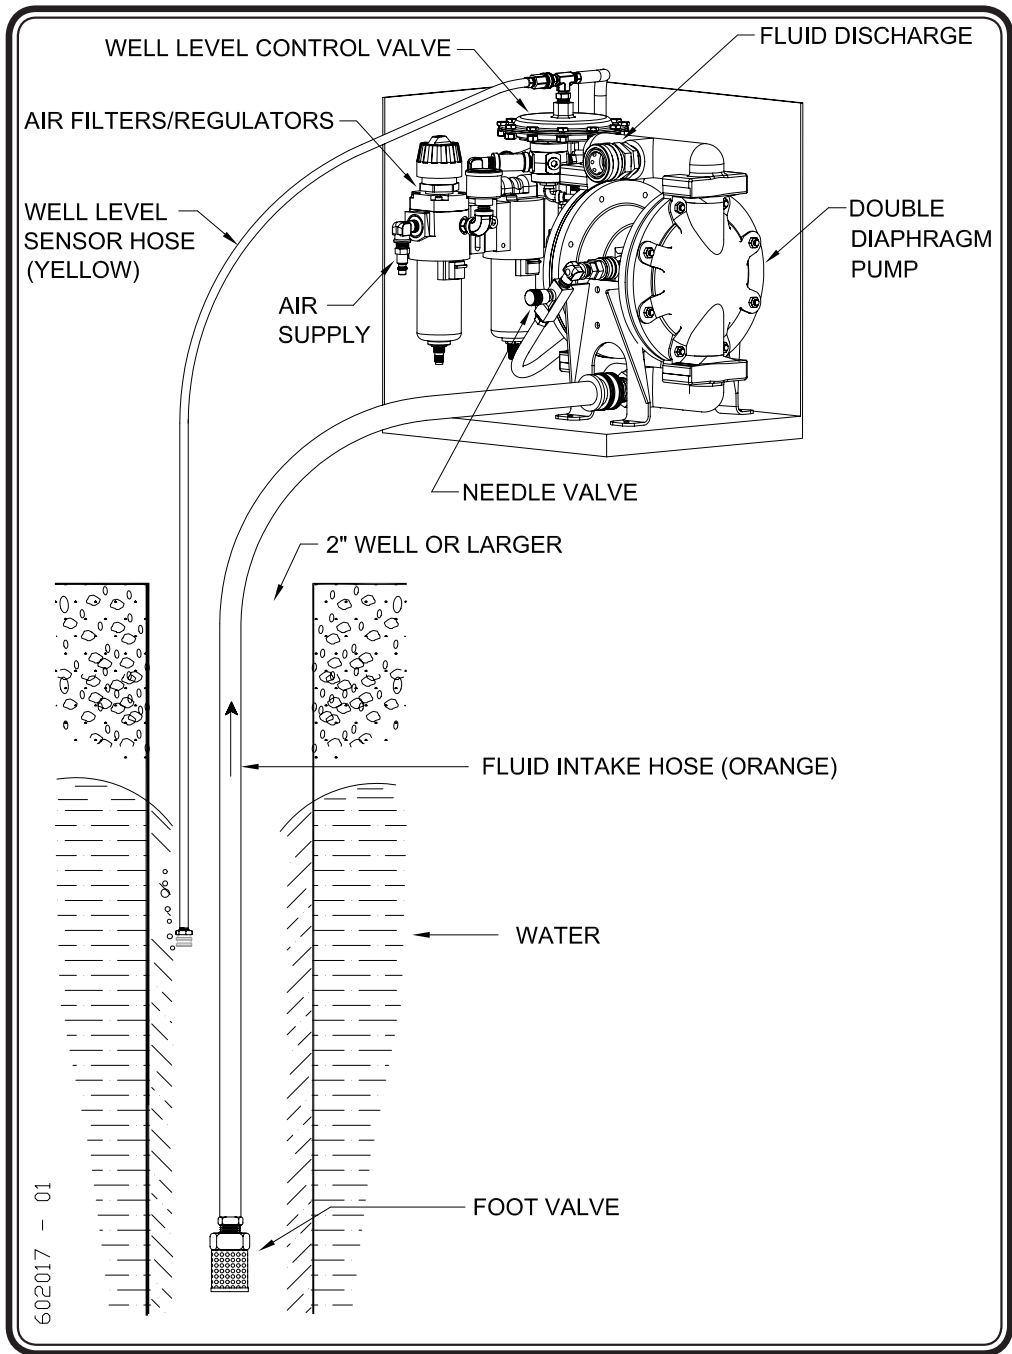

Figure 2 - ADDP System with Foot Valve
- The pneumatic sensor circuit has an **air bubbler** connected to the 1/4 inch **well level sensor hose** via a quick connect. (See Figure 2)
- The **foot valve** placed on the end of the **fluid intake hose** keeps the **DDP** from losing prime by preventing fluid from leaving the hose. (See Figure 2)
- Connect the **FEMALE air hose socket with 3/8 inch MPT** to the air compressor making sure to use the teflon tape on the threads. (See Figure 2)
- Connect the **MALE quick connect on the system air supply hose** to the **FEMALE socket on the air compressor**. (See Figure 2)
- Attach the **FEMALE quick connect on the system air supply hose** to the **MALE air supply quick connect near the air filter on the pneumatic system**. (See Figure 2)
- Connect the MALE quick connect on the **well level sensor hose** to the FEMALE quick connect on the top of the pneumatic system. (See Figure 2)
- The FEMALE end of this hose is positioned in the well or tank from which the fluid is being drawn. This hose end is usually secured about six (6) inches below the desired fluid level. (See Figure 2)
- Connect FEMALE quick connect of the **fluid intake hose** to the MALE DDP quick connect. The MALE end of the **intake hose with foot valve** is positioned in the well or tank below the desired fluid level. (See Figure 2)
- Connect the MALE quick connect of the **fluid discharge hose** to the FEMALE DDP quick connect. The FEMALE end of the **discharge hose** leads to a **fluid discharge point**. (See Figure 2)